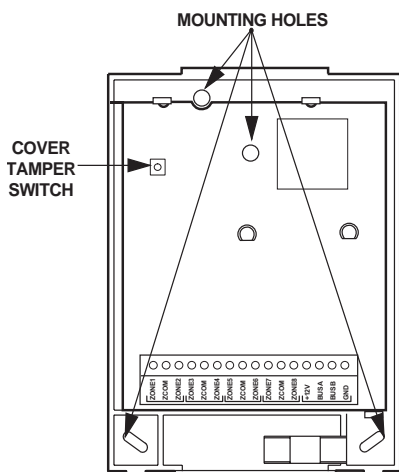

Figure 5. Mounting Holes
3. Place the back plate on the wall and mark the mounting holes (Figure 5)